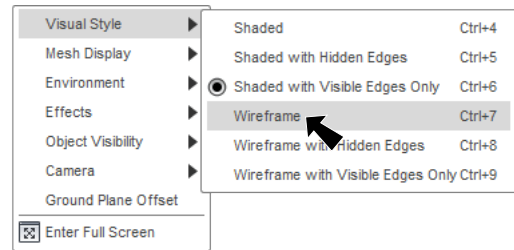

Fig. 25
Step 4. Switch Visible Style to **Wireframe (Ctrl-7)**. To switch to Wireframe, click the Display Settings  pull-down in the Navigation Bar at the bottom of the canvas and select **Visual Style > Wireframe**, Fig. 25.